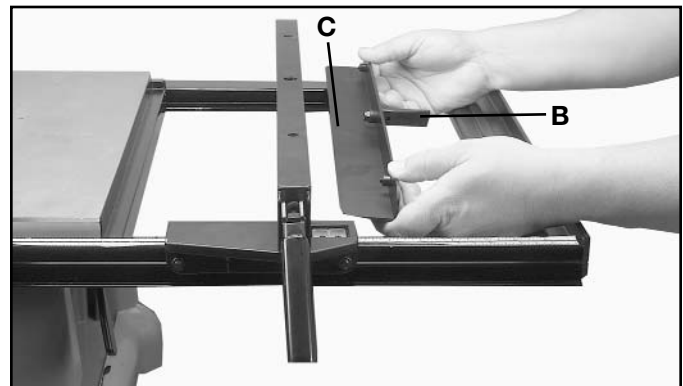

Fig. 25
To adjust the fence, pull up on lever (B) so that the top of the rip fence can be removed, and repositioned on the rip fence as shown in Fig. 25. This is only necessary when the fence guide rails are extended.
When using the guide rails for ripping, the fence must be positioned as shown in Fig. 25, so that the wood can rest on the ledge (C,) up against the rip fence.